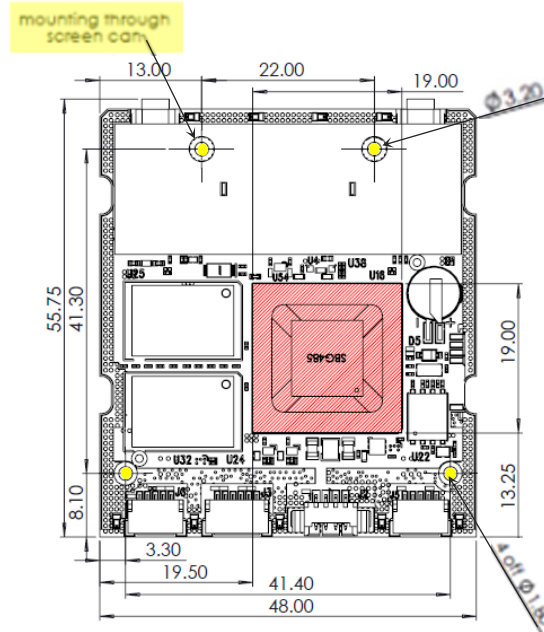

Figure 3-1: Top View
The BluSDR-6 can be mounted to a fixture using the four mounting holes, highlighted yellow in *Figure 3-1* and *Figure 3-3*. The maximum screw diameter is 1.6mm.
- FPGA device U16 on the top side of the PCB, see *Figure 3-1* and *Figure 3-3*
**Note:** Frequencies below S-band are particularly sensitive to EMI. Therefore, DTC have incorporated a copper track on the perimeter of the PCB to help facilitate the integration of these variants. See *Figure 3-1* and *Figure 3-2*.